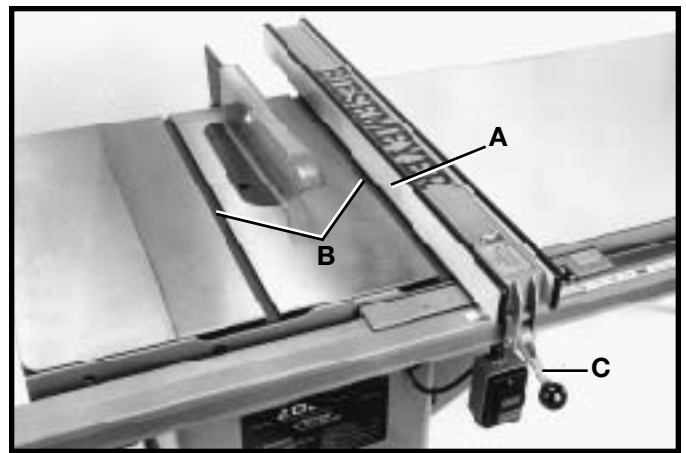
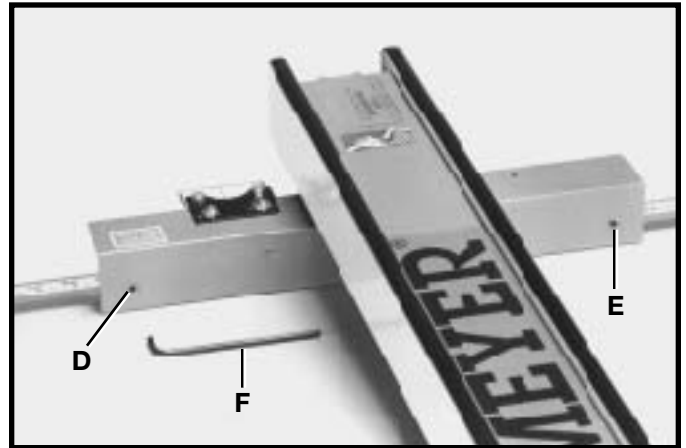

Fig. 63
Fig. 64
The fence (A) Fig. 63, must be adjusted so it is parallel to the miter gage slots (B). To check and adjust, move fence (A) until the bottom edge of the fence is in line with the edge of one of the miter gage slots as shown, and push down on the fence clamping lever (C). Check to see if the fence (A) is parallel to the miter gage slot the entire length of the table. If an adjustment must be made, lift up fence locking lever (C) and raise fence up off the guide tube, as shown in Fig. 64. Slightly tighten or loosen one of the two adjusting screws (D) or (E) Fig. 28, using a 3/16 allen wrench (F), not supplied. Replace the fence on the guide tube and check again to see if the edge of the fence is parallel with the miter gage slot the entire length of the slot. Repeat this adjustment until you are sure the fence is parallel with the miter gage slot. **IMPORTANT: VERY LITTLE MOVEMENT OF SCREWS (D) AND (E) IS NECESSARY TO ADJUST THE FENCE PARALLEL WITH THE MITER GAGE SLOT.**